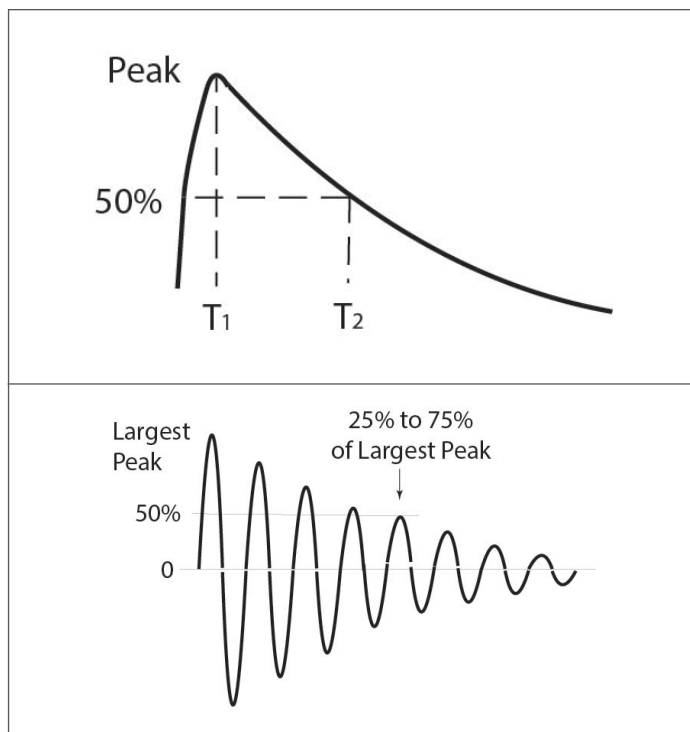

Figure 1: Double Exponential (top) and Damped Sine (bottom) Waveforms
Waveforms associated with CS117 are classified as double exponential or damped sine wave where the waveform generator provides control of the rise and decay times of various waveforms. Figure 1 provides a generic waveform shape. The double exponential waveform on the left has an amplitude in current (I) terms or in voltage (V) terms. T_1 denote the rise time and T_2 denotes the decay time to 50% of the peak. The rise and decay times vary depending on the waveform selected for test with the detailed waveform parameters provided in the standard. The waveform parameters are verified by applying the transient to a calibration loop configured as a short circuit for current (I) waveforms and configured as an open circuit for voltage (V) waveforms.